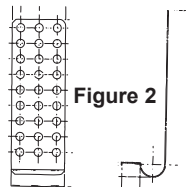
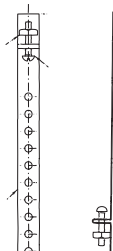

Figure 2
Figure 1
2. There are two types, figure 1, the single row or figure 2 which has three rows with a formed radius where the bulb sits.